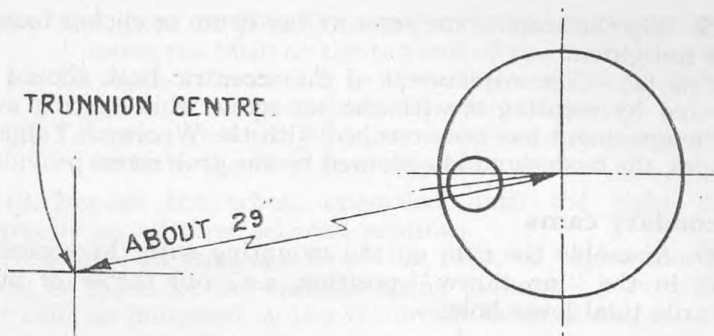

Fig. 1.
22. Adjust the eccentric bush in the cam to approximate the position indicated in **FIG. 1**.